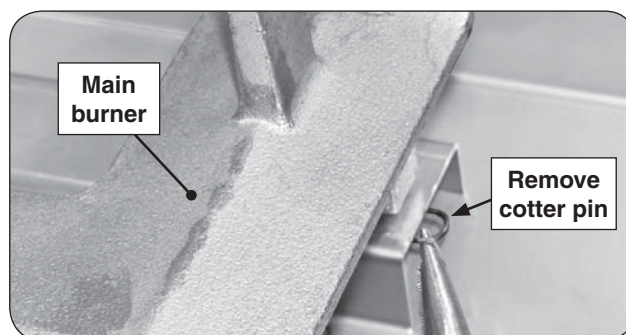

Fig. 39-2 Main burner removal
2. Locate and remove the cotter pin from the left or right rear burner anchoring peg by pulling it straight out of the cotter pin hole using fingers or needle-nose pliers. See Fig. 39-2.